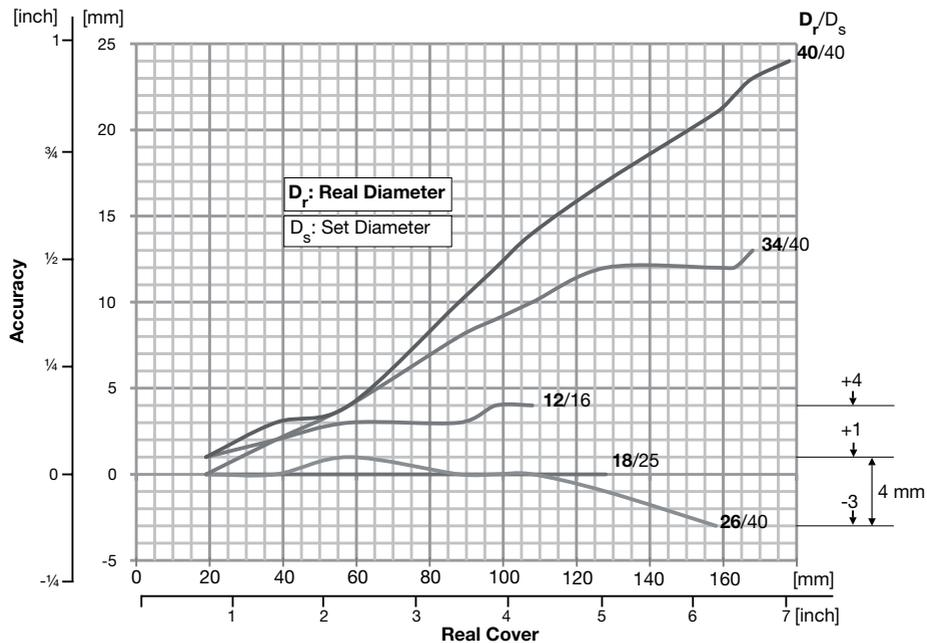

Fig 25: Accuracy of cover measurements and overlapping rebars
- Table 1 and Figure 25: Accuracy for cover measurements when setting the measured diameter